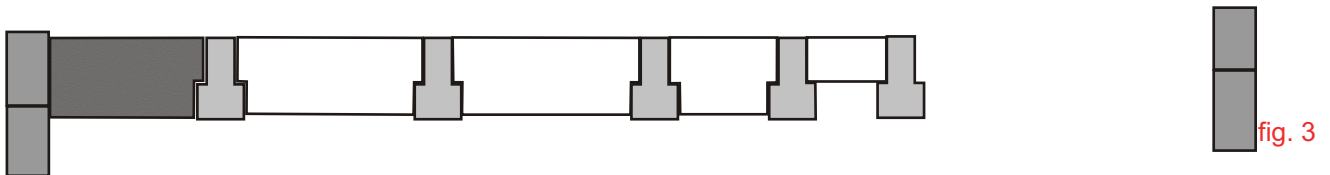

fig. 3
4. The TS infill panels should be placed between the beams as shown in fig.3.